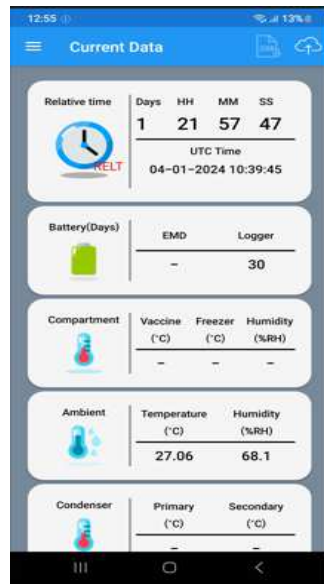

Figure 34 Current Data View on Mobile Application Dashboard
- Once the data is downloaded, data can be viewed on the application dashboard as shown in figure 34.